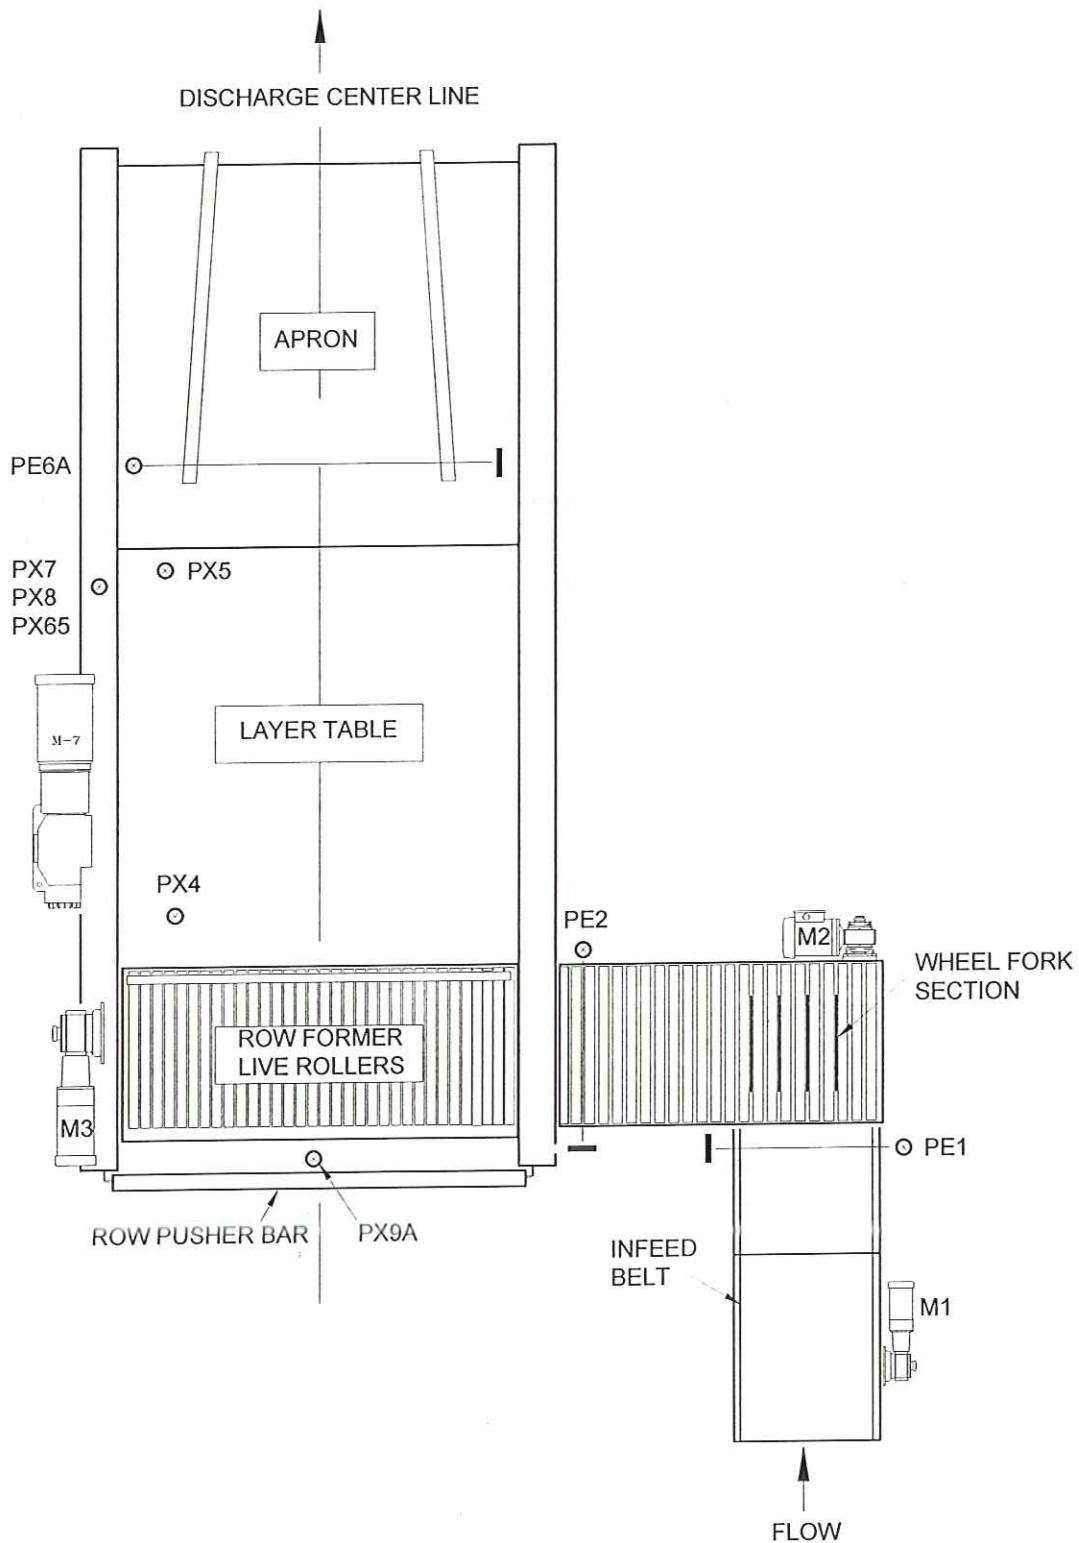

Figure 2-1: Plan View of Case Handling Area
1. Cases of product are delivered from the infeed conveyor onto the infeed belt that spaces and feeds cases into the palletizer. (See Figure 2-1.)